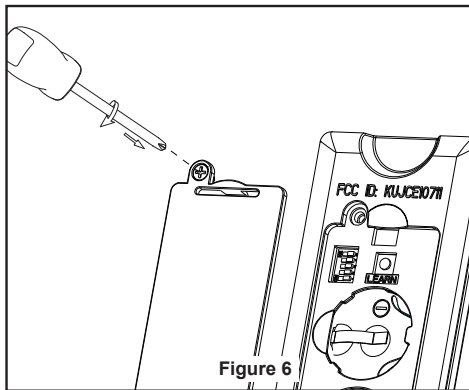

Figure 6
6. Replace battery cover on the remote control and secure with the previously removed screw. (Figure 6)